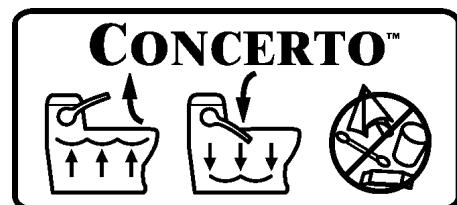

Fig. 21
STEP 19: Set the toilet in place (fig. 19) and secure to floor with the #14x2-1/2 inch long lag bolts (fig. 20). Install decorative bolt caps by pushing them onto bolt heads (fig. 21).